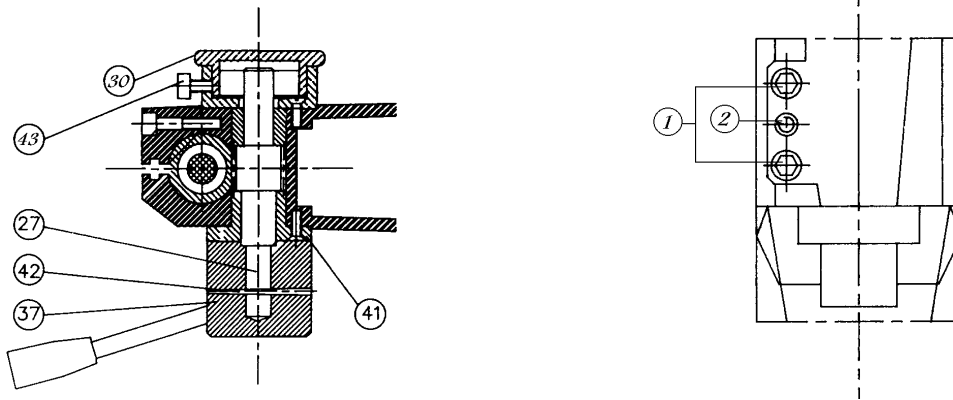

FIG.3
3.2 REGLAGE DU RESSORT DE RAPPEL DE BROCHE (FIG.3)
3.3 REGLAGE DU JEU DE FOURREAU (FIG.3)